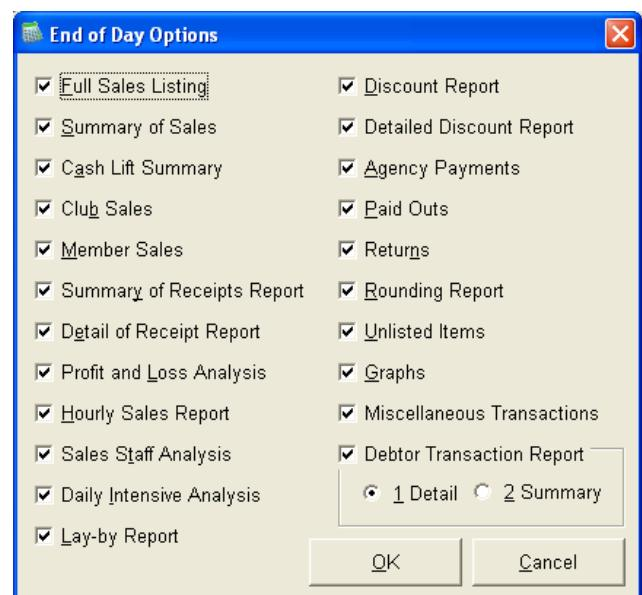

Figure 91
2. The 'End of Day Options' screen will be displayed (as shown in Figure 91). This allows you to choose the information that is to be included in the end of day and History reports and may be changed at any time.